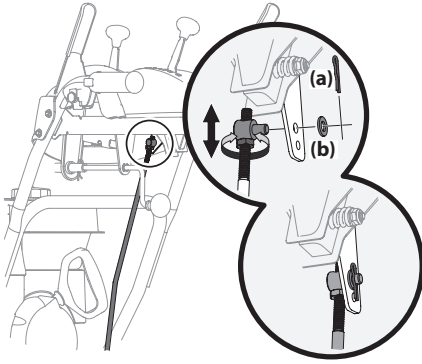

Figure 4-7
- Remove cotter pin (a) and washer (b) from adjustment ferrule on shift rod and pull it out from shift lever. See Figure 4-7.
- Rotate ferrule up or down on shift rod as necessary until it lines up with upper hole in shift lever. Refer to Figure 4-7 inset.